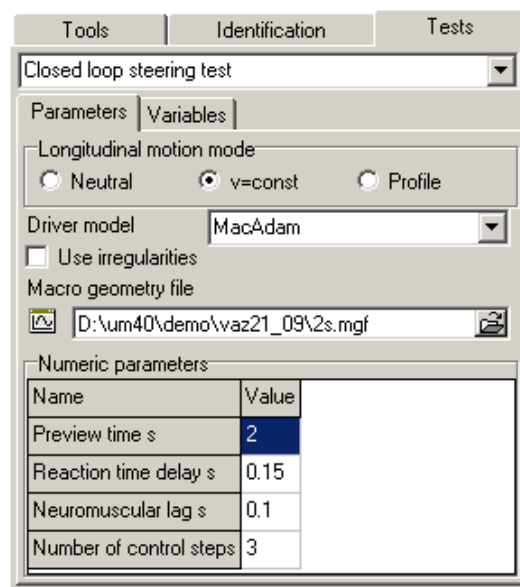

Figure 1.9. Double lane change
3. Select the **Road vehicle/Tests**, see Fig. 1.9.
4. Desired path is described in the **2s.mgf** file, see Fig. 1.9. To visualize the path click the  button. New graphical window with plot of desired path appears.